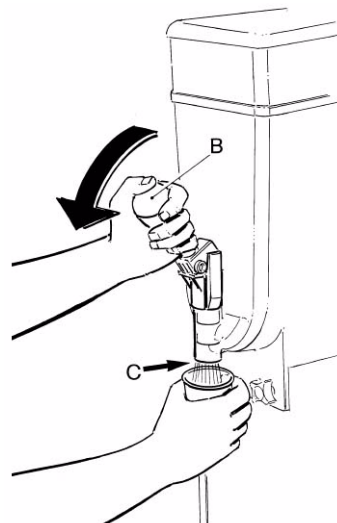

FIGURE 11
1. Position the cup under the dispensing valve (C).
2. Lower the dispensing lever (B) (see Figure 11).